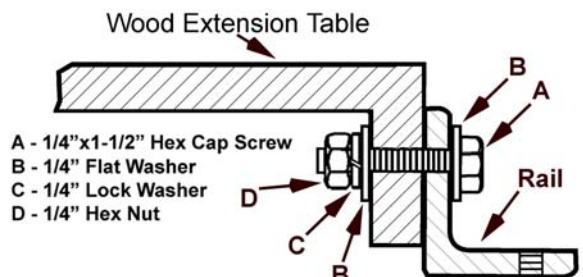

Figure 9
- Referring to Figure 9: Install hex cap screws (A), flat washers (B), lock washers (C) and hex nuts (D) into the holes in the front and rear edges of the extension table as shown. Finger-tighten only.